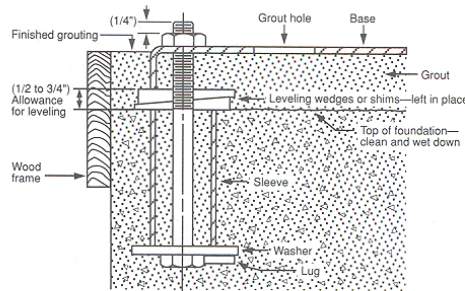

Figure 1
2.3.1. Bedplate must be grouted to a foundation with solid footing. Refer to Fig. 1.